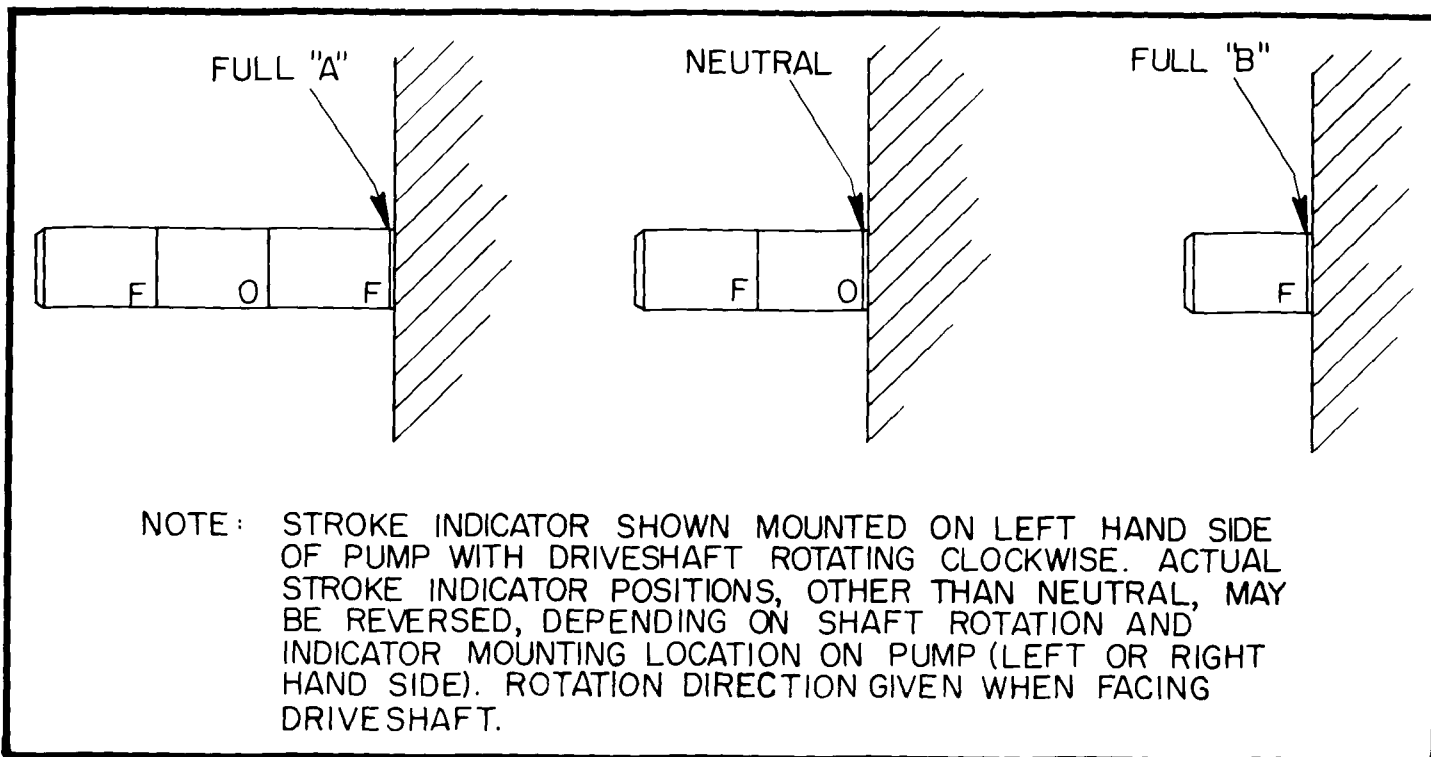

Figure 4. Stroke Indicator Positions. (508644)
See Figure 4. Start pump at neutral, adjust control for approximately 1/2 volume, then check setting on indicator stem. Stall the ram or output shaft of driven component to raise pressure, then notice gage reading, which will indicate HPRV setting. See Figure 15. While fluid is warm make any necessary relief valve adjustments by loosening locknut (455) and turning adjusting screw (463) inward to increase or outward to decrease "cracking" pressure.